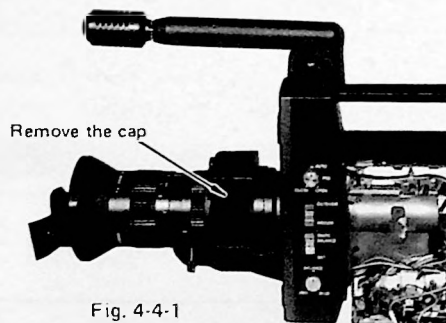

Fig. 4-4-1
- Remove the cap for the iris setting screw from the zoom lens unit. (Fig. 4-4-1)